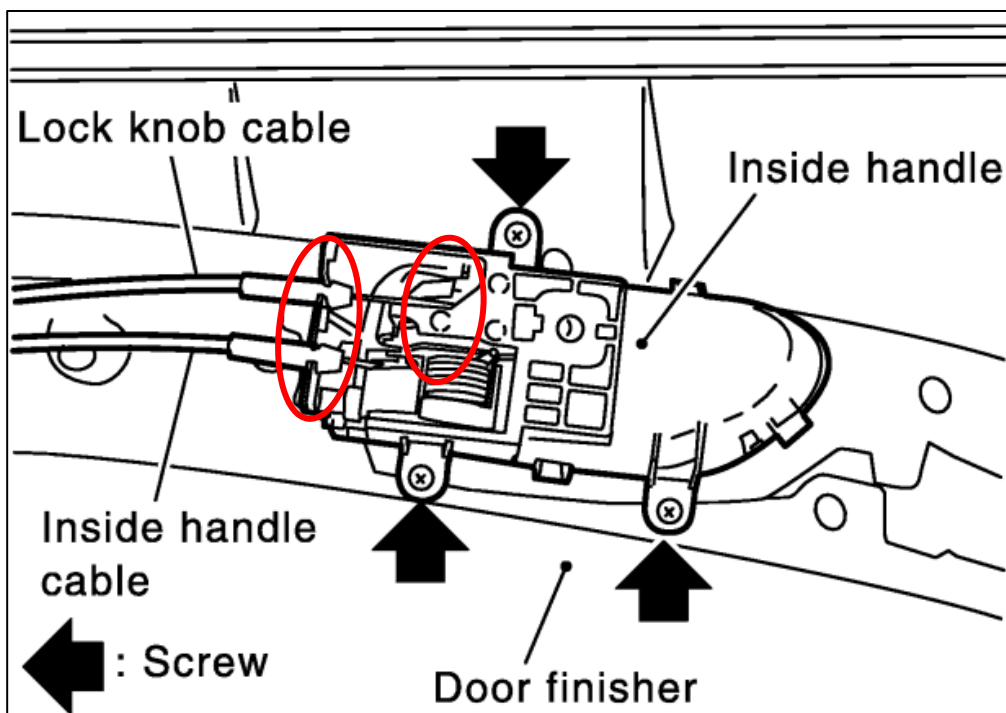

Figure 23
10. Disconnect the Door Latch and Lock cables from the Door Panel. They will easily pop out. *Figure 23.*